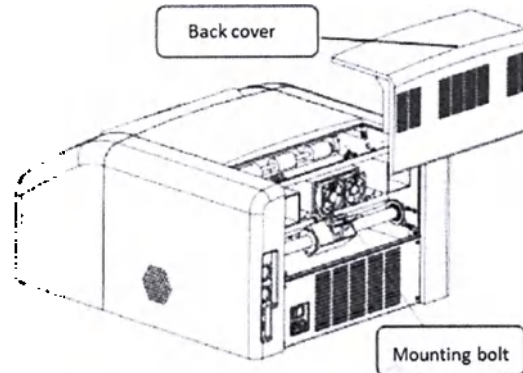

Figure 26 – Removing the back cover
- Open the back cover and loosen the fastening bolt (Figure 26);